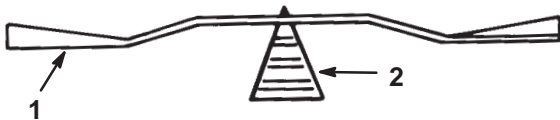

Figure 23
2. Check the balance of the blade by putting it on a blade balancer (Fig. 23). If the blade stays in a horizontal position, the blade is balanced and can be used. If the blade is not balanced, file some metal off the back side of the blade. Repeat this procedure until the blade is balanced.